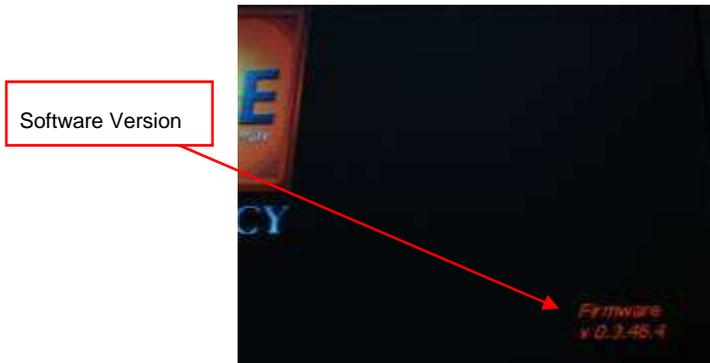

Figure 33: SW Version
3. Upon startup, you will notice on the bottom right side the COM sw version currentley installed (Figure 33).Write it down for future reference.